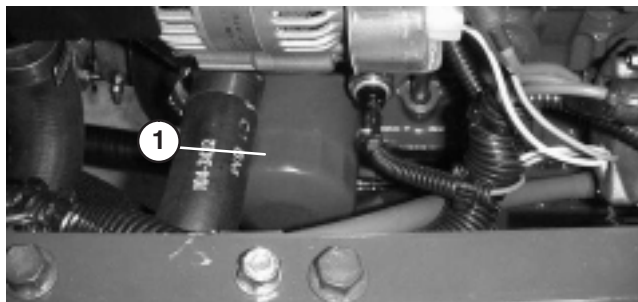

Figure 37
5. Remove and replace oil filter (Fig. 37).